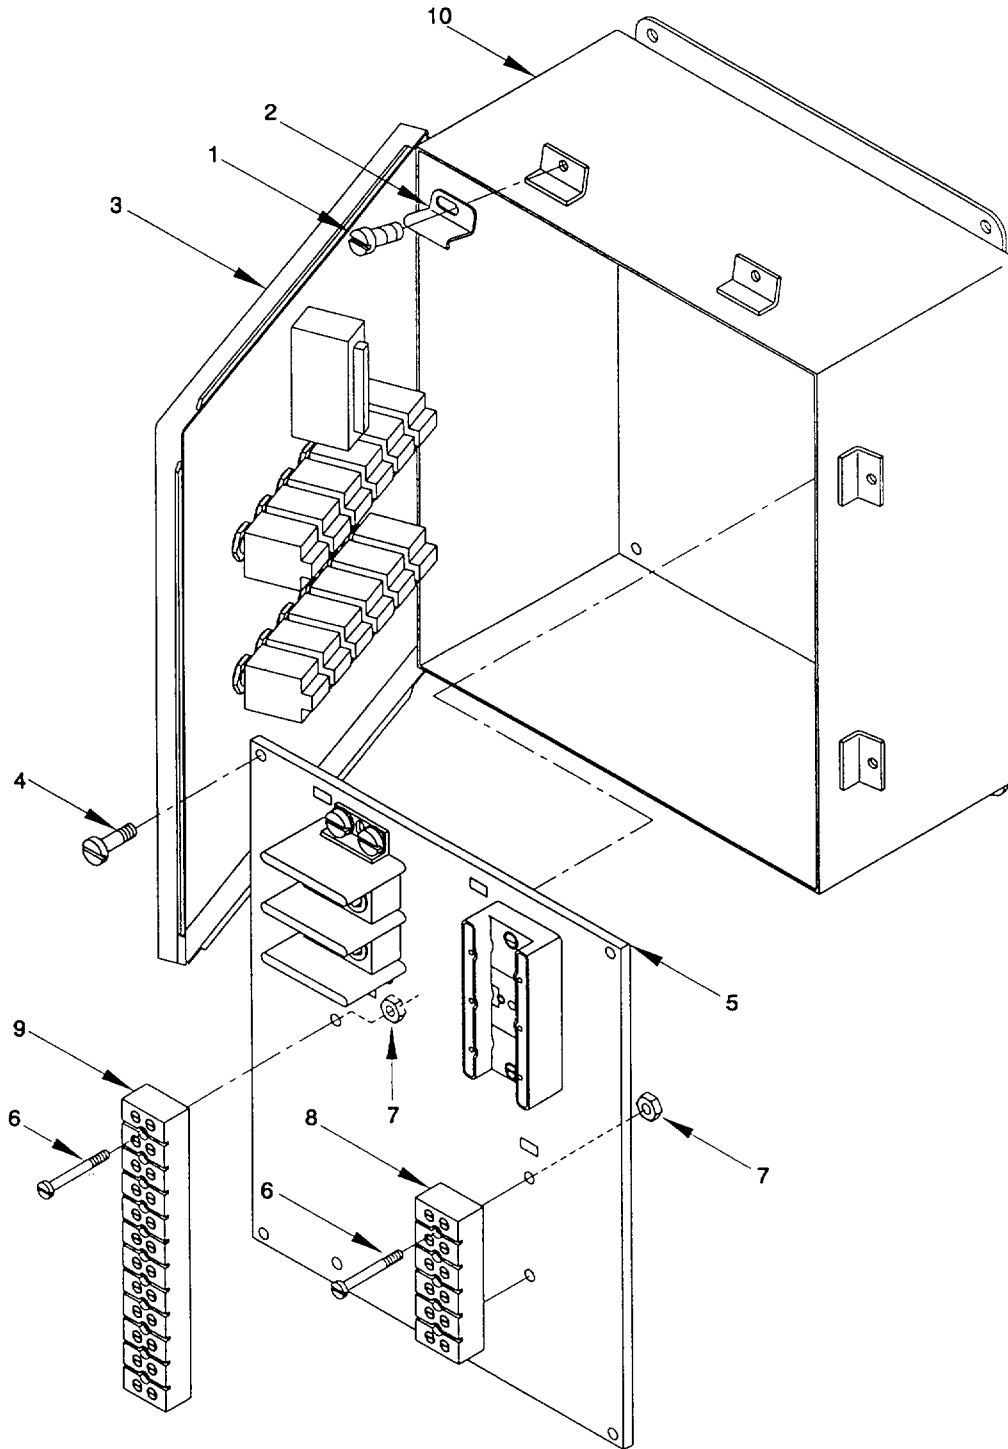

Figure 2-64. Terminal Block, Propulsion Module Circuit Breaker Panel "A6", Remove/Install
a. *Remove.* (figure 2-64)
- (1) Remove six screws (1) and six clamps (2) securing cover (3) to enclosure (10). Swing cover (3) open.
- (2) Disconnect and tag electrical wiring to terminal boards (8 and/or 9). Refer to Appendix G.
- (3) Remove four screws (4) securing panel (5) to enclosure (10). Lift panel (5) enough to access the rear of the panel (5).
- (4) Remove two round head screws (6) and two nut inserts (7) securing terminal board (8) and/or two round head screws (6) and two nut inserts (7) securing terminal board (8). Remove terminal boards (8 and/or 9).
b. *Install.* (figure 2-64)
- (1) Apply Sealing compound to screws (1, 4 and 6).
- (2) Install new terminal boards (8 and/or 9). Secure each terminal board (8 and/or 9) with two nut inserts (7) and two round head screws (6).
- (3) Install panel (5) in enclosure (10). Secure panel (5) with four screws (4).
- (4) Reconnect electrical wiring, as tagged, to terminal boards (8 and/or 9). Refer to Appendix G. Use tie wraps to secure any loose wires.
- (5) Close cover (3) and secure with six clamps (2) and six screws (1).